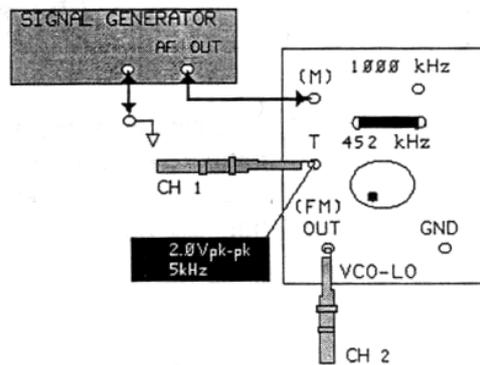

Figure 6-15.
9. You will now observe the effect of a 2.0 V_{pk-pk}, 5 kHz message signal on the FM carrier frequency. Connect the FUNCTION GENERATOR to (M) on the VCO-LO circuit block, as shown in Figure 6-15.